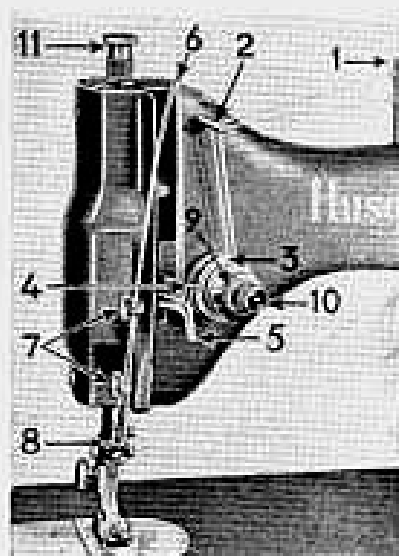

Fig. 7.
The take up lever (6) should be in its highest position when threading the upper thread. Pass the thread from the spool through the hole in the spool pin and the thread guide (2), down between the tension discs (3) in the tension device, and over the hook (4) of the thread regulating spring, underneath the thread guide (5) and further upward to the thread take up lever (6) which the thread shall pass from right to left, downward through thread guides (7) and into thread guide (8) in the needle holder. The thread is then threaded through the eye of the needle from the front, and is pulled out a finger length. Fig. 7 shows the machine equipped with two needles.
The pressure of the presser foot is adjusted by tightening or loosening the grooved bush (11, Fig. 7) on the presser rod.
Before threading, see that the thread take-up lever (6, Fig. 7) is in its highest position, then thread the needle and hold the free end of the upper thread loosely in the left hand while the balance wheel is